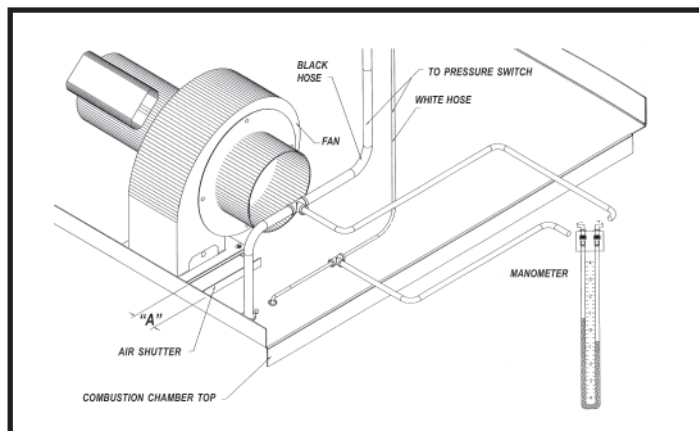

FIG. 5 Combustion Air Shutter Adjustment
- a. Loosen two combustion air blower mounting nuts, to allow the air shutter to slide. See Figure 5.